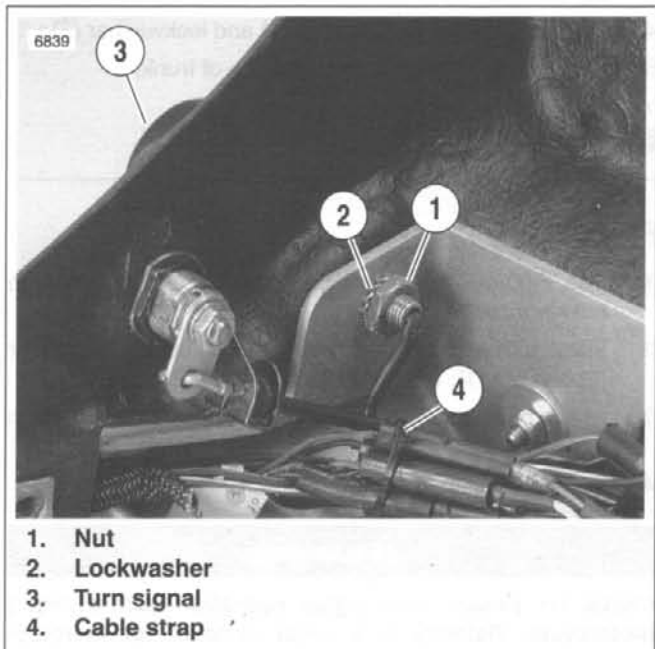

Figure 7-49. Rear Turn Signals
4. See Figure 7-49. Remove nut (1) and lockwasher (2).
5. Remove turn signal (3) from outside of trunk.
1. See Figure 7-49. Insert bullet connectors through rear hole in trunk. Attach turn signal (3) using lockwasher (2) and nut (1). Tighten to 96-120 **in-lbs** (10.8-13.6 Nm).